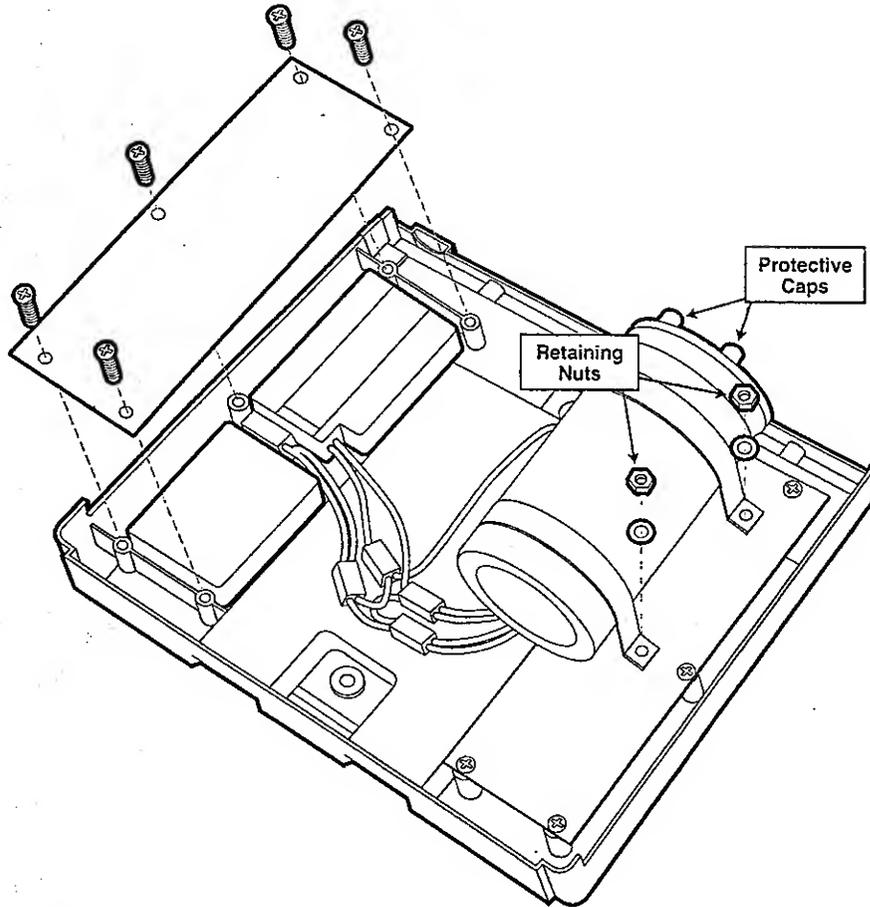

Figure 5-6. Internal Batteries / Energy Storage Capacitor
- 2 To remove the batteries, refer to Figure 5-6 to remove the five (5) screws from the batter y retaining plate.